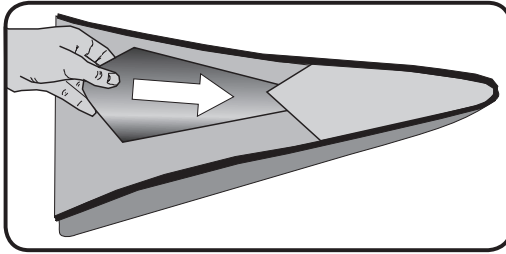

Figure 3. Plastic Bow and Stern Insert
5. Finally, insert plastic Bow and Stern Forms into the grey pockets on the bow and stern of the kayak. (See Figure 3).